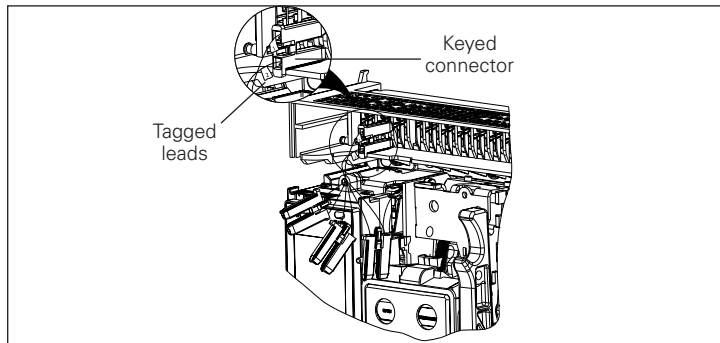

Figure 16. Leads and connectors.
1. Some electrical accessory leads are tagged with numbers associated with the applicable connection diagram located in instruction book TD013001EN. Leads are also supplied with keyed secondary connector plugs to ensure proper connections (Figure 16). If the auxiliary switch leads are not labeled, pre-printed labels are provided in the auxiliary switch kit. Apply the proper numbered label for the secondary terminal block location. Refer to Table 2.